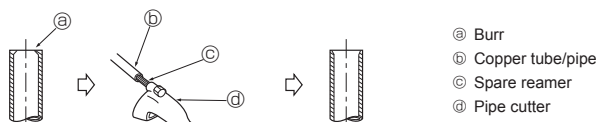

Fig. 5-3
5.3.2. Burrs removal (Fig. 5-3)